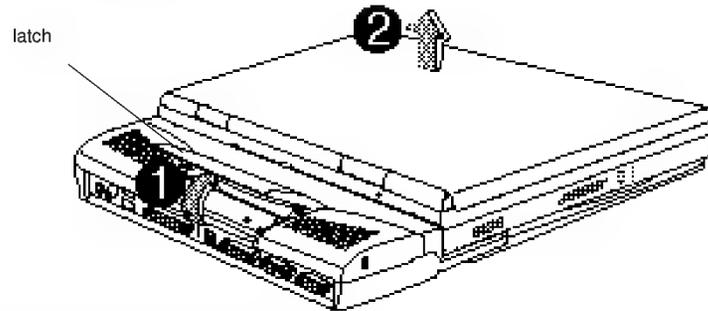

Figure 36. Removing the Mini Dock
3. Lift up the system (Figure 36).